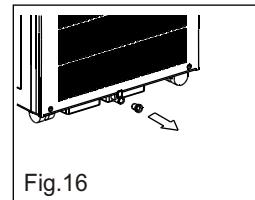

Fig.16
- When you plan to leave this unit unused for a long time, remove the bottom rubber plug from the back hole and attach a section of the continuous drain hose . All the water in the bottom tray would drain outside through the drain hose.(See Fig.16)